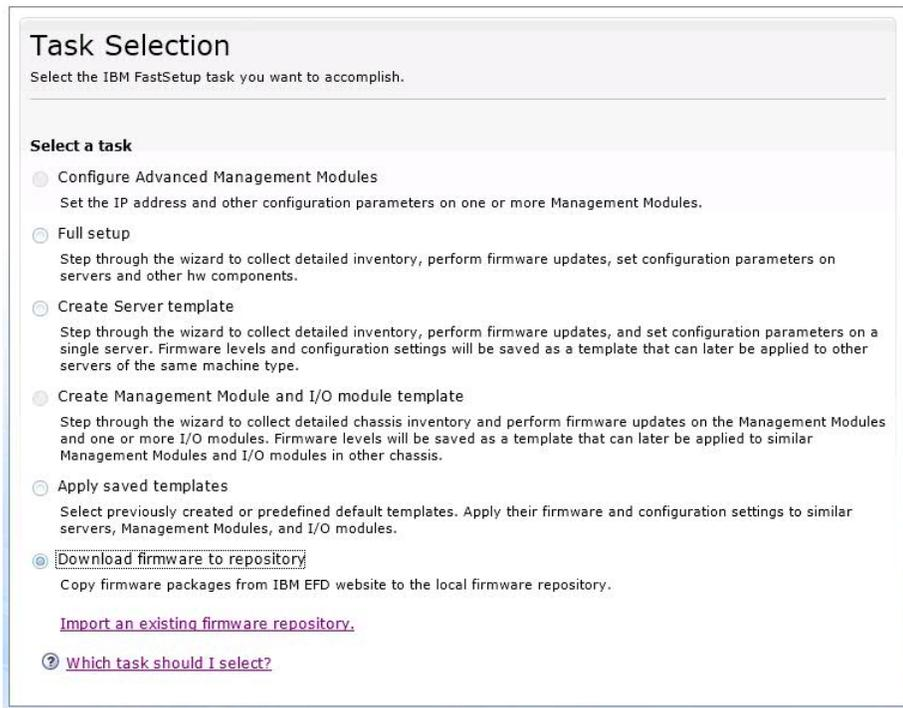

Figure 13: Task Selection panel
1. Select **Download firmware to repository** from the Task Selection panel. See Figure 13 below.